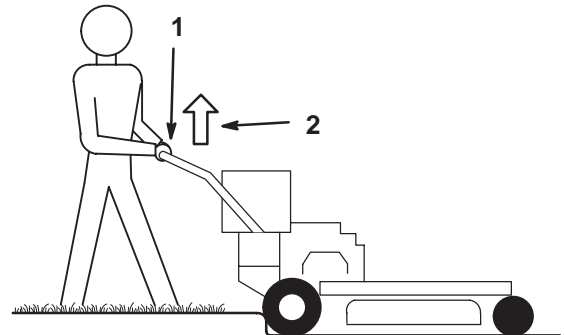

Figure 20
3. Drive machine until drive wheels contact curb (Fig. 20).